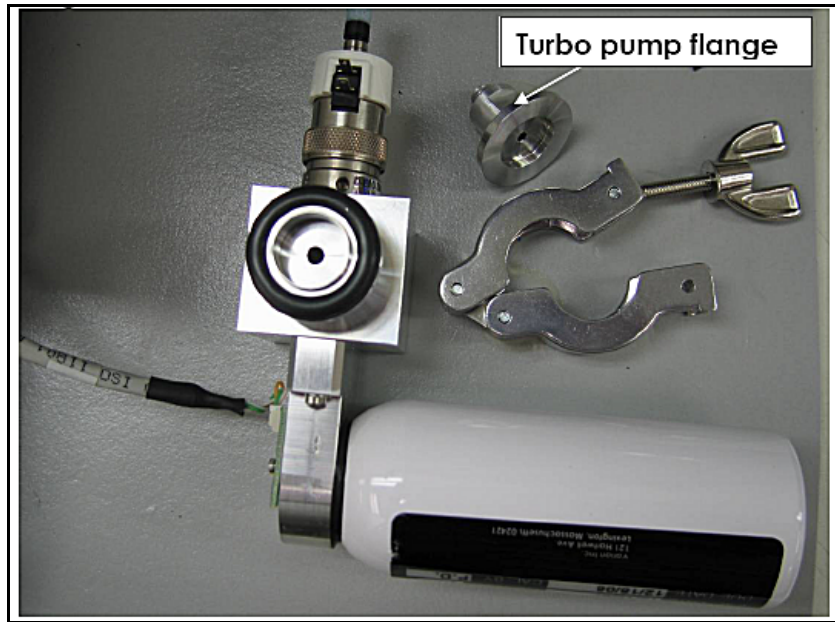

Figure B-16 Turbo Pump Flange
5. Remove the clamp from the calibrated leak assembly and remove the turbo pump flange (Figure B-16).